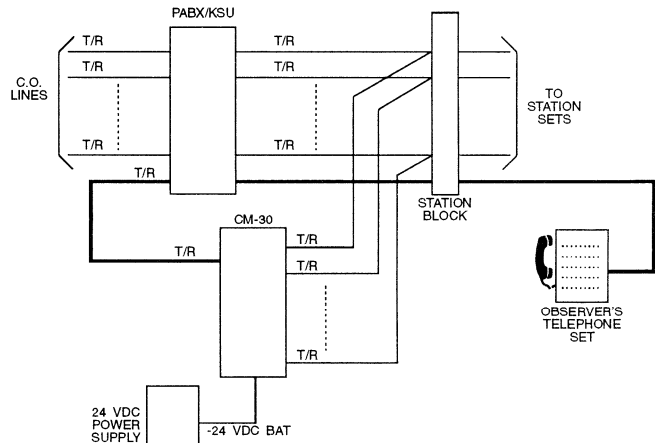

Fig. 4
- 2.7 **Central Office/Trunk Ports** may also be used to access the CM-30. By restricting access to that particular trunk, only designated stations will be allowed to monitor. See figure 4.